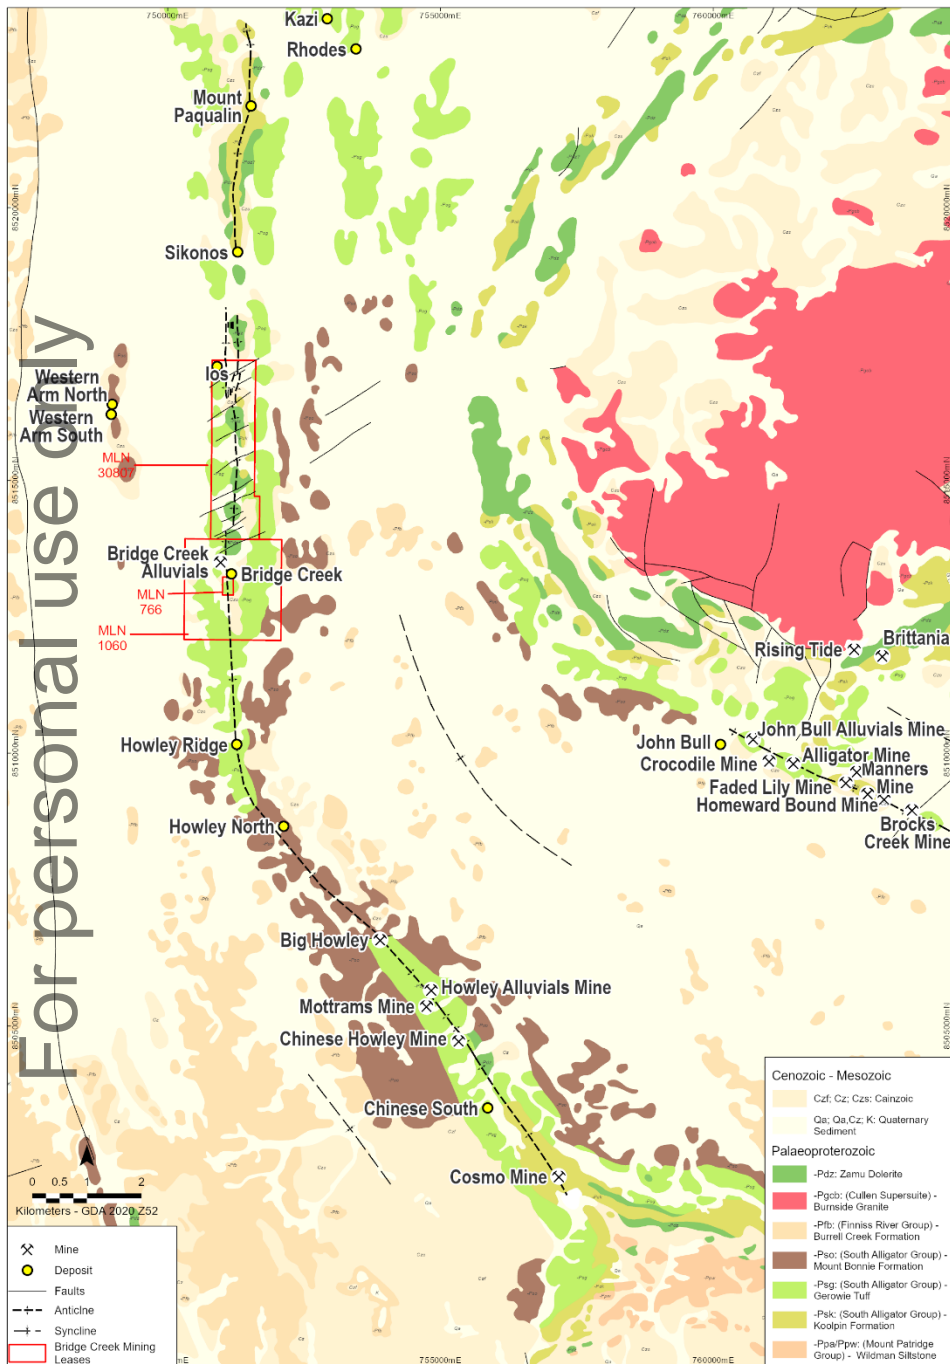

FIGURE 4: HOWLEY ANTICLINE SURFACE GEOLOGY
- Bridge Creek lies to the north of the 8 mines that lie on the Howley Anticline. This is an area that is well documented and follows a geological structure that has produced >3 million ounces ⁽²⁾ (Refer to *Figure 4*).
(1) FNR ASX Release 24 June 2025: Bridge Creek Phase 1 Assays
(2) FNR ASX Release 29 August 2025: Investor Presentation